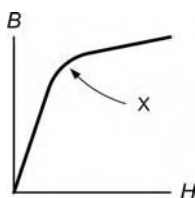

Figure 5.214
70. The feature marked X on the B - H curve shown in Figure 5.214 is: [B1, B2]